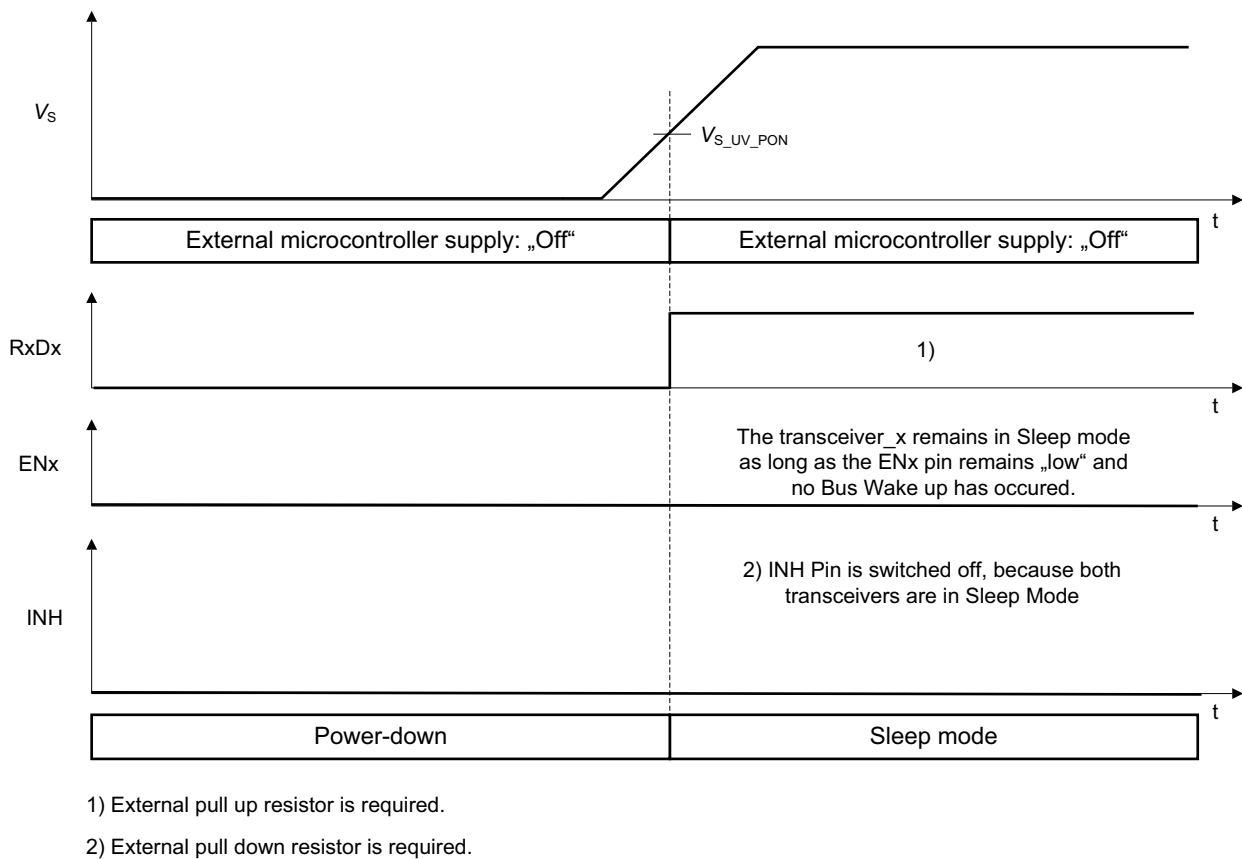

Figure 7 Transition from Power-down to Sleep mode
- The Sleep mode will be entered, if V_S exceeds the $V_{S_UV_PON}$ threshold, while the ENx input pin remains “low” (see Figure 7).